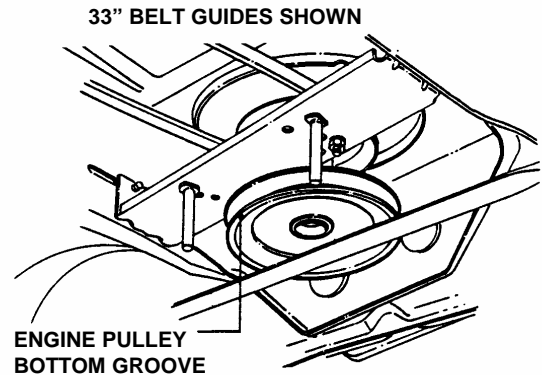

FIGURE 4.24
- Remove deck drive belt from engine pulley bottom groove. See Figure 4.24.